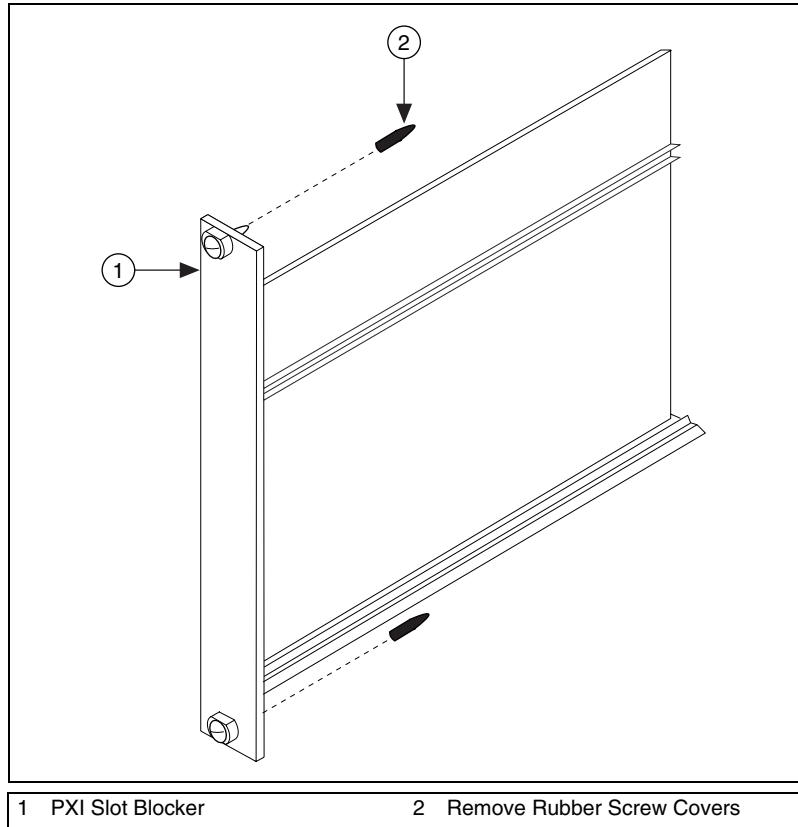

Figure 1-6. Optional Slot Blockers Enhance Cooling
- (Optional) NI recommends installing slot blockers in adjacent vacant PXI slots to maximize cooling air flow to the RF Vector Signal Analyzer hardware modules. The PXI Chassis Slot Blocker Kit, part number 778678-01, is shown in Figure 1-6.